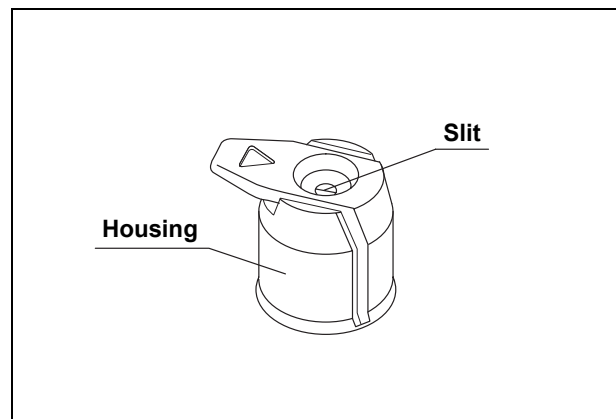

Figure 3.4
2. Inspect the biopsy valve for cracks or other damage (see Figure 3.4).